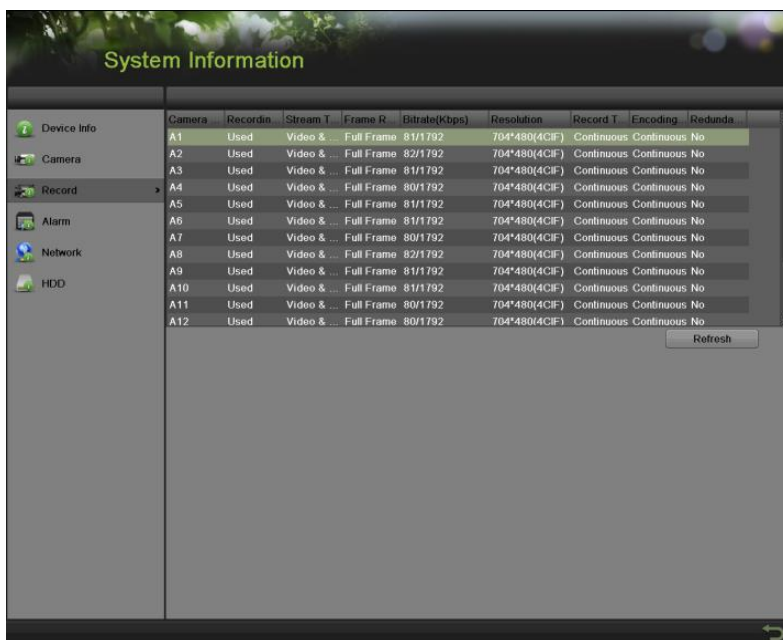

Figure 49 Record Information Menu
2. Select the Camera tab to enter the Camera Information menu to view the status of each camera, as shown in **Figure 49**. You can click the refresh button to renew the information displayed.
3. Select the Record tab to enter the Record Information menu to view the recording status and encoding parameters of each camera, as shown in **Figure 49**. You can click the refresh button to renew the information displayed.